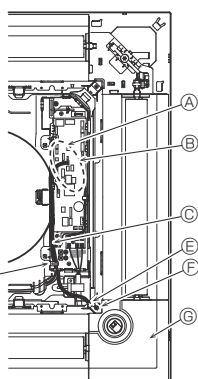
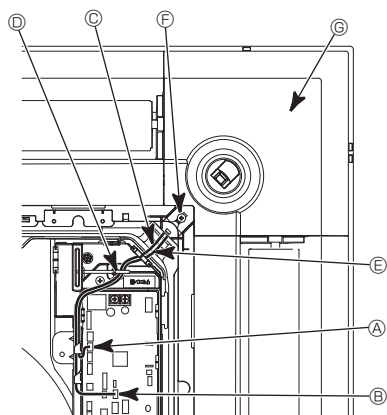
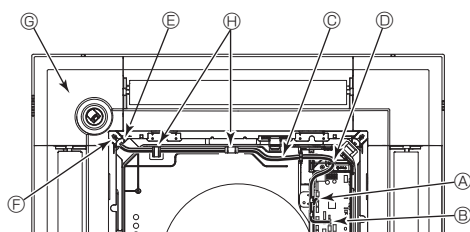

Fig. 6-10
Fig. 6-11
Fig. 6-12
6.5.1. Standard position (Fig. 6-10) and position ② (Fig. 6-11)
- Take the lead wires CN4Z (white, 4-pole) and CN5Y (white, 5-pole) of the 3D i-see Sensor corner panel ④ from the side of the electrical box on the unit and make sure to connect them to the connector of the controller board.
- The 3D i-see Sensor corner panel should be fixed onto the grille ① with screw ③.
6.5.2. Position ① (Fig. 6-12)
[Fig. 6-10] [Fig. 6-11] [Fig. 6-12]